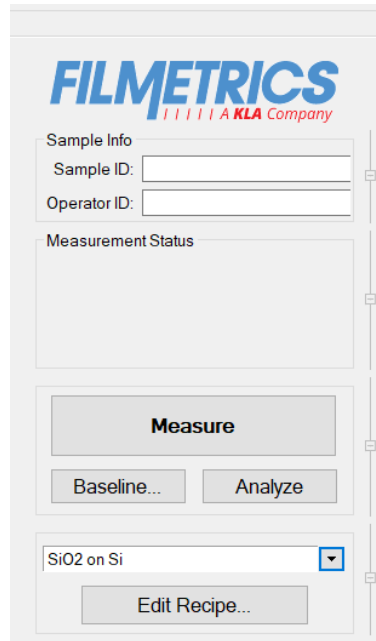

Figure 7. Operation Tab of FILMeasure Software
- In the FILMeasure software, click “Baseline” as shown in Figure 7.